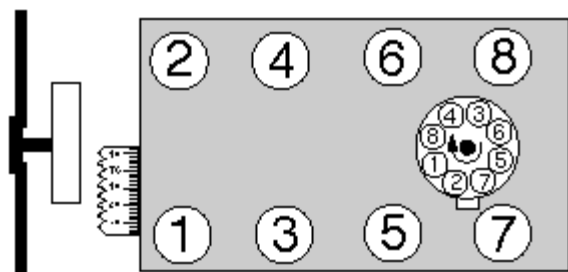

Figure 2—262-400 c.i.d. Chevrolet
- **FIRING ORDER AND CYLINDER NUMBERING**—For firing order and cylinder numbering, see Figure 2.